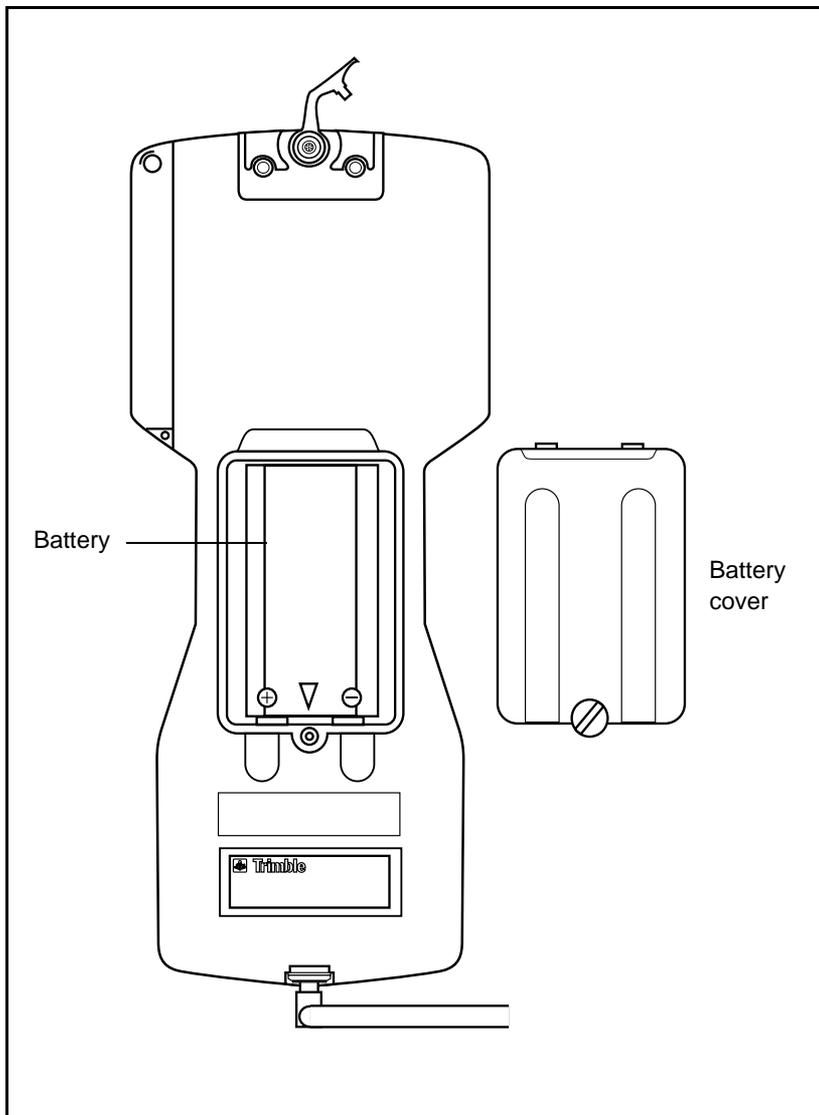

Figure 2.3 Location of the TSC1 internal battery
1. Remove the Lithium-ion battery from the TSC1 data collector. To do this, turn off the TSC1, unscrew the battery cover screw (see Figure 2.3) and take out the battery.
Figure 2.3 shows the location of the internal battery in a TSC1 data collector.